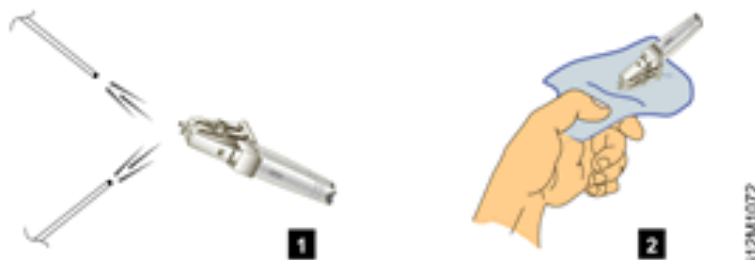

Figure 4-1 Clean Fiber-Optic Components
3. Use an aerosol duster to blow any contaminants from the component (part 1 of Figure 4-1).
4. Gently wipe the end-face and other surfaces of the component with an alcohol pad (part 2 of Figure 4-1). Ensure the pad makes full contact with the surface to be cleaned. Wait approximately five seconds for cleaned surfaces to dry.